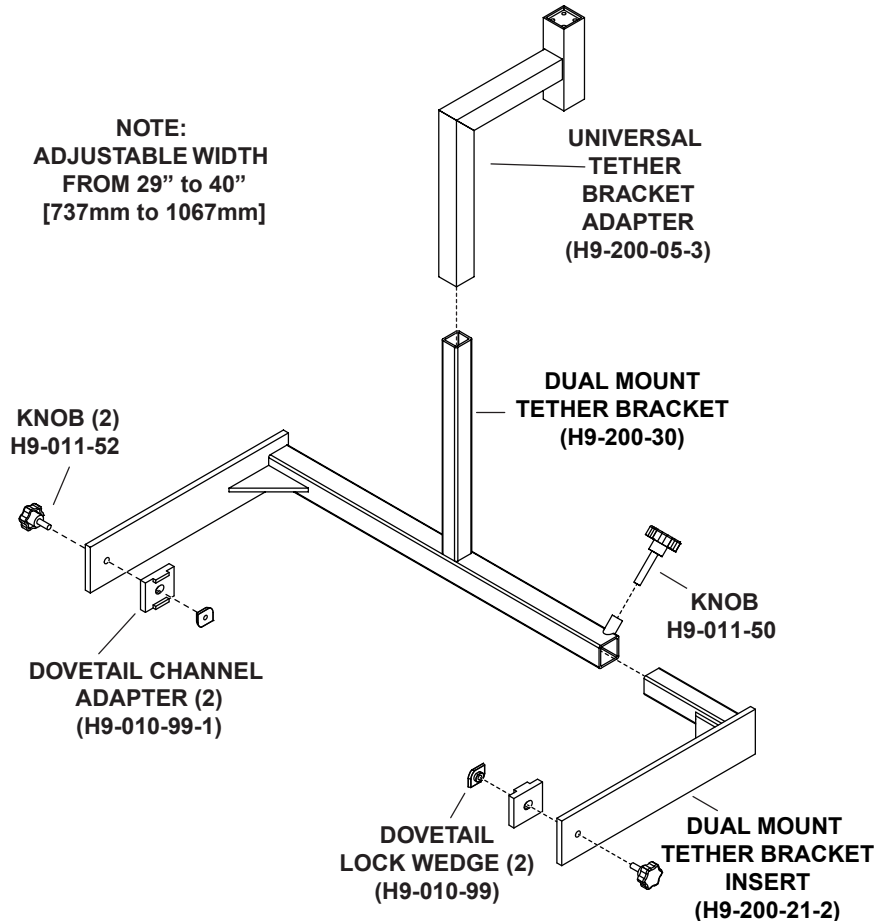

Figure 4. Tether bracket assembly
1. Slide the Dual Mount Tether Bracket into the Universal Tether Bracket Adapter (Figure 4).
2. Slide the Dual Mount Tether Bracket Insert into base of the Dual Mount Tether Bracket (Figure 4). Adjust it to the desired position.
3. Screw the H9-011-50 knob into the tube in the tether bracket (Figure 4) and tighten it to secure the Dual Mount Tether Bracket Insert.